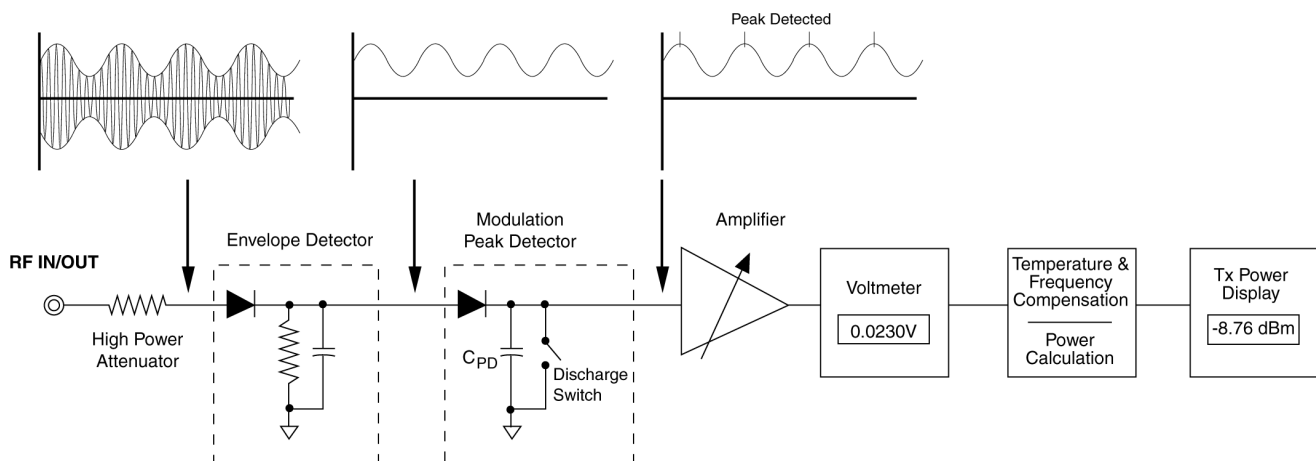

Figure 3. Peak Power Measurement Using the Agilent E6380A or 8921A Test Set
As shown, if the transmitted power from the base station is lower than planned, the actual coverage area is smaller (internal dashed circle), resulting in a dead area. Mobiles within the dead area are not able to start or receive a call. Also, other mobiles traveling inside the dead area drop their existing calls. Another situation arises when the power transmitted from the base station is higher than planned. A mobile normally receiving two pilot signals, as shown in Figure 3, now receives three pilot signals. This "Pilot Pollution" condition adds to the interference in the system and reduces the overall capacity.
As shown in Figure 3, two diode detectors are used. The first detector (Envelope Detector) converts the envelope of the RF signal to baseband, while the second detector (Modulation Peak Detector) detects the peak voltage of the envelope. The measurement starts by discharging the modulation peak detector using the discharge switch. The discharge switch is then opened to allow the modulation peak detector to charge. After a specific period of time, the voltage across CPD is measured using an internal voltmeter.
Now that the voltage value is measured, it is taken through a number crunching algorithm that performs temperature and frequency compensations and calculates the peak power. The calculated peak power value is then displayed. Figure 3 shows how the peak power of a simple amplitude modulated signal is measured using the 8921A or the E6380A.
1. From the **To Screen** menu, select **RF ANL**. The RF ANALYZER screen appears, see Figure 3.